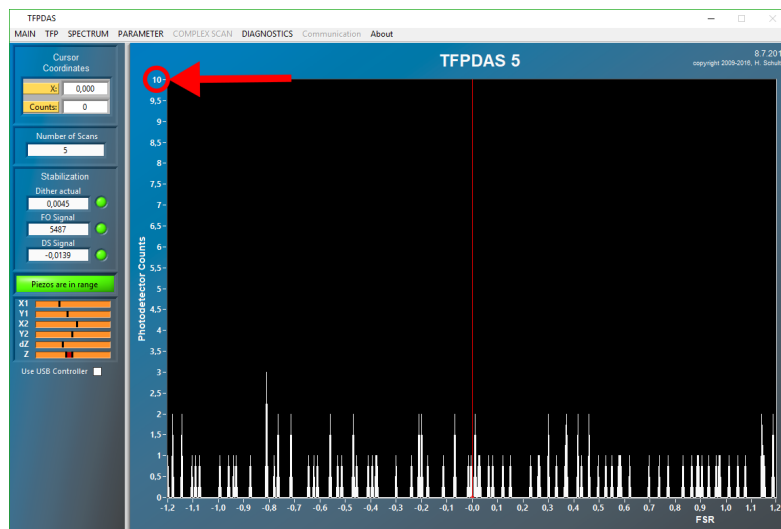

Figure 5: Scale the intensity until you see the noise level of the detector.
- [19] If you switched off the photodetector in step [6], switch on the detector again while still blocking any laser light going into the *TFP-interferometer*! **Make sure that the software is not in idle mode by pressing *Ctrl+R***! Scale the intensity of the spectrum in the main window of the *TFPDAS 5 module* using the *arrow-up* ( $\uparrow$ ) and *arrow-down* ( $\downarrow$ ) keys on the keyboard until you see the noise of the detector as exemplarily shon in Fig. 5: